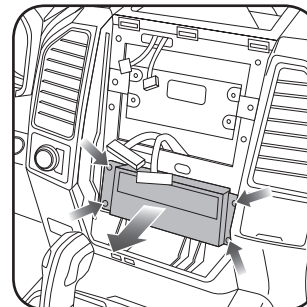

Fig. 4.0
4. Remove the (4) 7mm screws securing the radio module, then unplug and remove it. (Fig. 4.0)